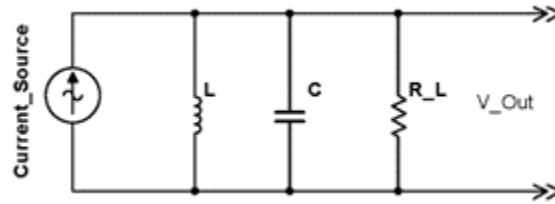

FIGURE 9. RLC resonator for P3.4
**P3.4)** Consider the RLC tank circuit shown in Fig. 9 being driven by an AC current source.
- Find the complex *poles*  $\omega_p$  of  $H(\omega)$ . These are the complex values of  $\omega$  where the denominator of  $H(\omega)$  is equal to zero. As discussed in lecture 3, these are the dynamical eigenvalues of the homogenous differential equation for the circuit. The real part of the pole is the resonant frequency, and the imaginary part of the pole is the inverse of the characteristic time constant for the circuit. Show that if  $LC \ll (RC)^2$ , the resonant frequency is  $\frac{1}{\sqrt{LC}}$ .
- (e) The quality factor  $Q$  of the circuit is  $\frac{\text{Re}(\omega_p)}{2\text{Im}(\omega_p)}$ . Note that the denominator's factor of 2 comes from the fact that the energy decays away twice as fast as the amplitude of the signal. Calculate  $Q$  in the small damping limit  $LC \ll (RC)^2$ .